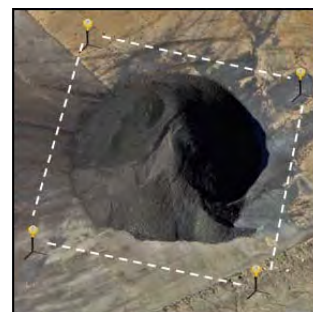

Figure 101
3. Keeping Number 1 and 2 in mind, place the Traverse Targets around the pile. Figure 101 shows an example of a stockpile that needs 4 traverse points in order to see the whole pile.